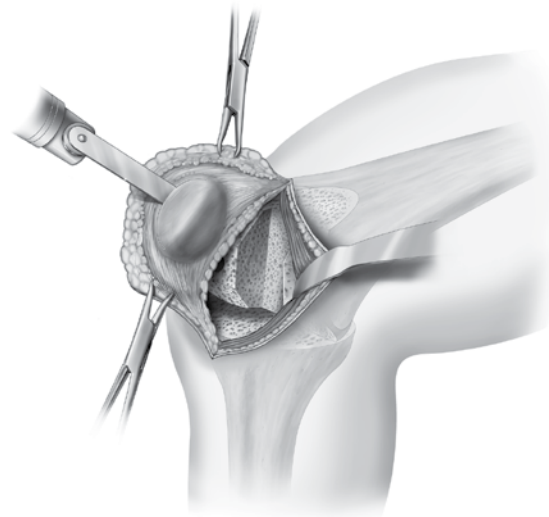
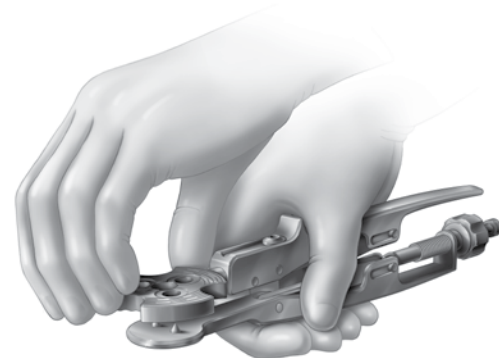

Figure 27
Figure 28
For patellar resection performed without a Patellar Resection Guide ("free hand"), the patella should be stabilized with large towel clips or similar instruments. The articular surface of the patella should be resected with an oscillating saw from either (1) the edge of the medial articular surface to the edge of the lateral articular surface, or (2) from the patellar tendon insertion cephalad to the quadriceps tendon insertion (*Figure 27*). When patellar resection is complete, final determination of patellar size (diameter) and hole preparation should be performed using the **LPI Patellar Universal Drill Guide** assembled to the **LPI Patella Preparation Handle** (*Figure 28*). With the handle completely open, position the Drill Guide on the patella to determine the patellar diameter. The pattern and size of the Drill Guide holes are universal for all three-peg patella components. Clamp the patella and secure the handle by turning the knob. Holes should be drilled through the patellar universal drill guide in either the three-hole or the single-hole configuration. After the holes are drilled, loosen the knob and remove the handle and Drill Guide from the patella. The appropriate size of trial prosthesis should be placed on the patella.